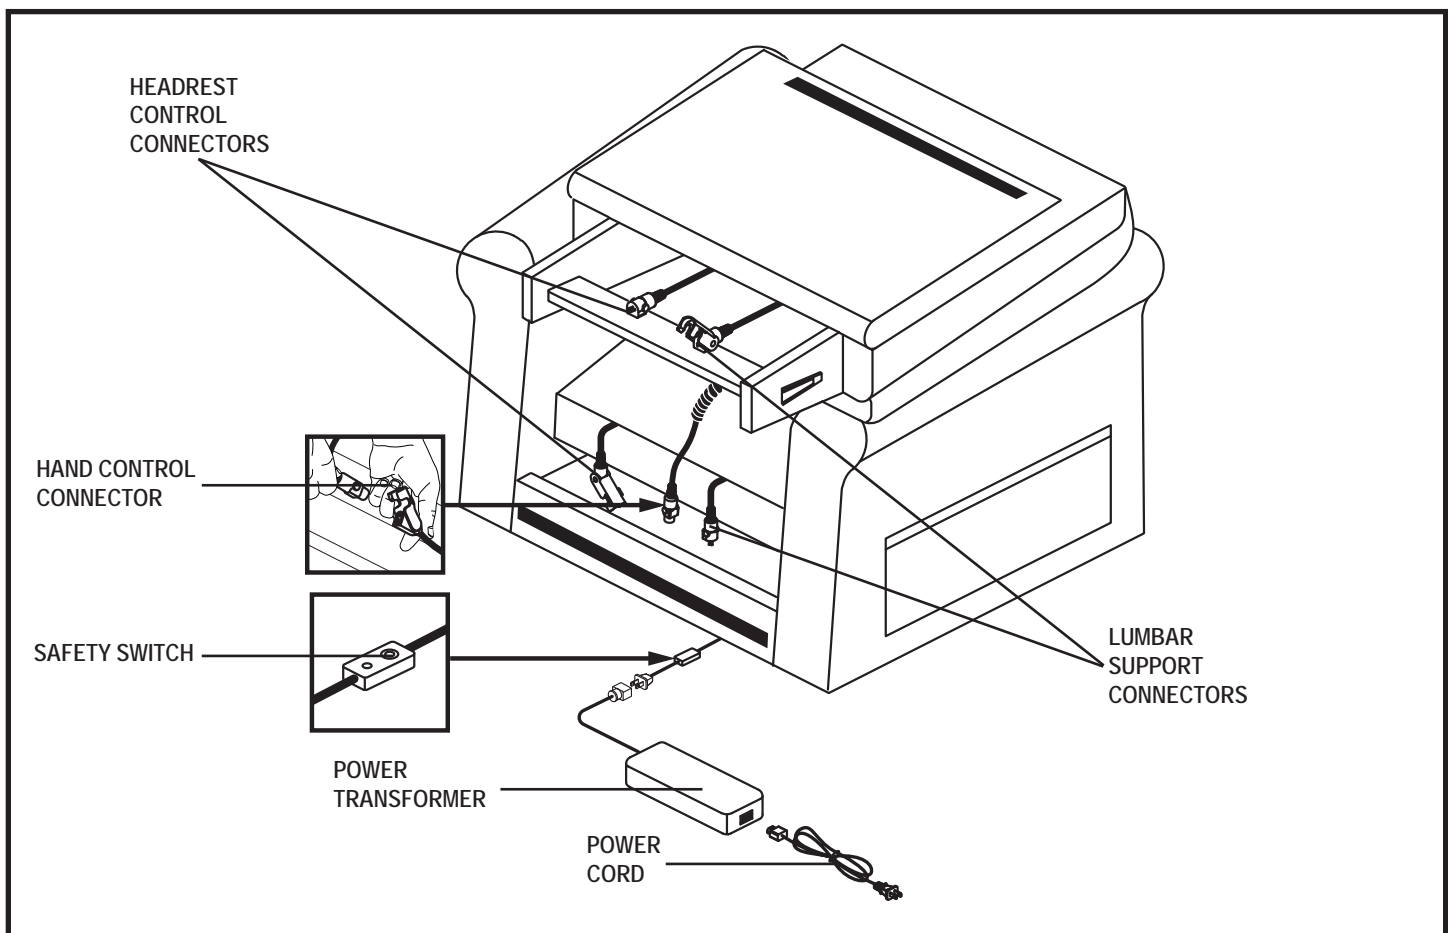

Figure 2. Chair Assembly - Power Transformer, Cords, and Connections
3. Remove the hand control from the plastic bag and connect it to the female plug located in the rear of the chair (**see figure 2**).
5. Plug in the Lumbar and Headrest connectors, **See figure 2.** If your model is Headrest Only, you need only to plug in the Headrest.
7. Connect the Power Transformer cable to the corresponding plug coming from the back of the chair, (**see figure 2**).
8. Connect the Power Cord into the Power Transformer (**see figure 2**).